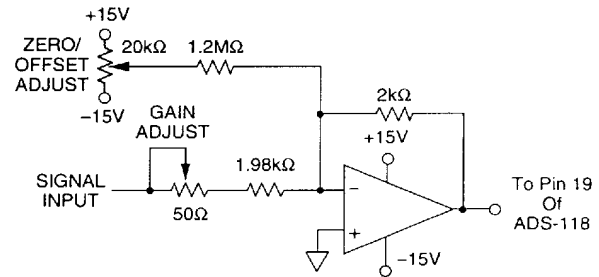

Figure 3a. Optional External Bipolar Calibration Circuit, ADS-118
- initial offset and gain errors can be reduced to zero using the adjustment circuitry shown in Figures 3a and 3b. When using this circuitry, or any similar offset and gain-calibration hardware, make adjustments following warmup. To avoid interaction, always adjust offset before gain.
Any offset and/or gain calibration procedures should not be implemented until devices are fully warmed up. To avoid interaction, offset must be adjusted before gain. The ranges of adjustment for the circuits in Figures 3a and 3b are guaranteed to compensate for the ADS-118's initial accuracy errors and may not be able to compensate for additional system errors.